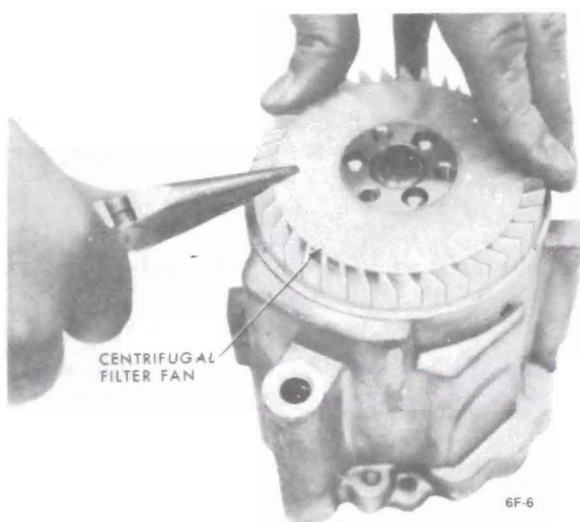

Figure 6F-6 Removing Centrifugal Fan From Hub
2. Insert needle nose pliers and pull fan from hub, as shown in Figure 6F-6. It is seldom possible to remove fan without damaging it. Care should be taken to prevent fragments from entering the air intake hole.